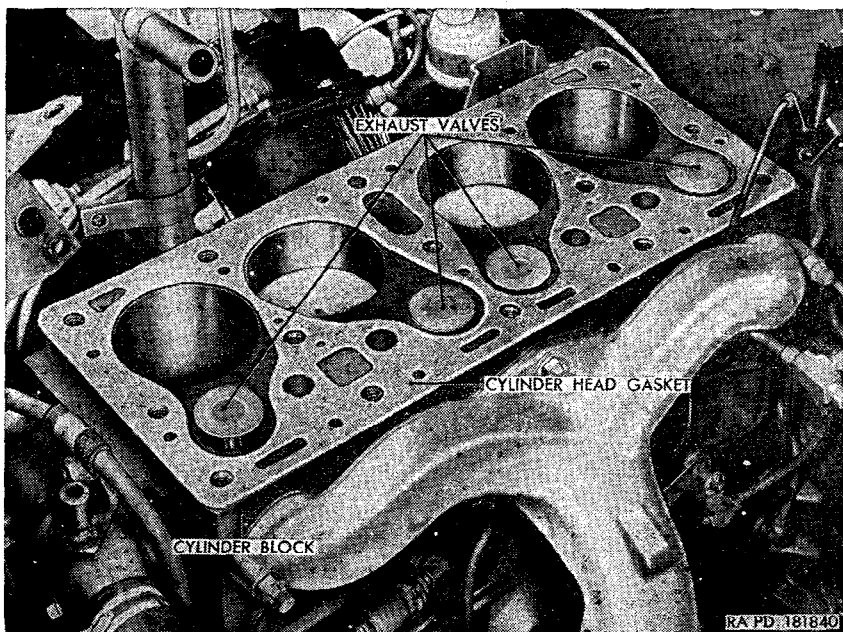

Figure 47. Cylinder head gasket positioned on cylinder block.
- (11) Remove the carburetor assembly (S) (par. 134b).
- (12) Unscrew the studs (C) from the tops of the two end rocker arm shaft brackets (E). Turn the studs over and screw the long ends of the studs into the brackets so that the rocker arm assembly components will stay together as a unit when removed from the cylinder head.
- (13) Remove the four lock nuts (D) securing the rocker arm shaft brackets (E) to the studs in the top of the cylinder head. Lift the rocker arm shaft brackets, rocker arms, rocker arm shaft, and springs as a unit from the top of the cylinder head.
- (14) Remove the four push rods (H) by lifting them out through the cylinder head holes.
- (15) Remove the two screws securing the lifting hook (Q) to the cylinder head and the cylinder head to the cylinder block. Remove the lifting hook. Remove the flat washer beneath the lifting hook and the top of the cylinder head at the rear hole of the hook.
- (16) Remove the screw securing the oil filter bracket (L) to the cylinder head and the right front of the cylinder head to the cylinder block. Push the bracket and oil filter assembly (M) away from cylinder head to prevent interference with the head when removing it.
- (17) Remove the screw securing the accelerator upper bellcrank (G) to the cylinder head and the left side of the cylinder head to the cylinder block.
- (18) Working through the hole over which the carburetor is mounted, when installed, remove the screw securing the cylinder head to the cylinder block.
- (19) Remove the remaining 10 screws (B) and flat washers securing the cylinder head to the cylinder block.
- (20) Lift the cylinder head (T) from the top of the cylinder block.
- (21) Remove and discard the cylinder head gasket (fig. 47) from either the bottom of the cylinder head or the top of the cylinder block.
- (1) Clean gasket and carbon deposits from both the cylinder head and the cylinder block.
- (2) Carefully position a new cylinder head gasket on the cylinder block (fig. 47).
- (3) Carefully lower the cylinder head onto the cylinder head gasket and cylinder block. Insert a  $\frac{7}{16}$ -inch flat washer and  $\frac{7}{16} \times 4\frac{1}{4}$  screw at each end of the cylinder head to properly align cylinder head with cylinder head gasket and cylinder block.
- (4) Position the oil filter bracket (L) on the cylinder head in alignment with the first two holes on the right side, and install the  $\frac{7}{16} \times 4\frac{1}{4}$  screw in the front hole.
- (5) Position the lifting hook (Q) over the rear hole in the oil filter bracket and start a  $\frac{7}{16} \times 4\frac{5}{8}$  screw into the thread.